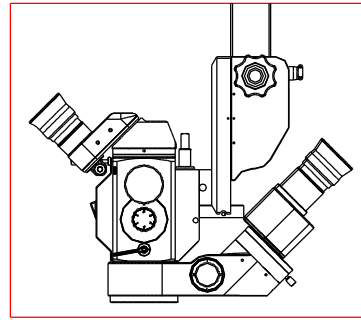

Fig.11
7. If it is needed that the doctor has to face the assistant, then adjust the assistant lens to the position of  $180^\circ$  relative to the main lens(indicated in Fig.11).